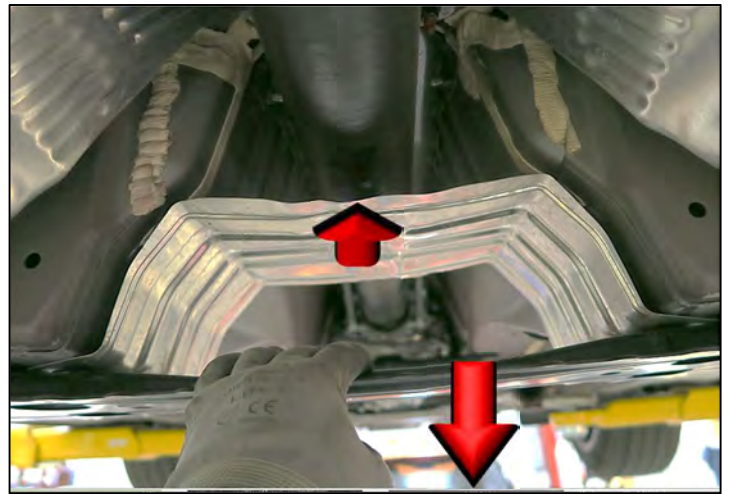

Figure 10
12. Remove the heat shield. (Figure 10)